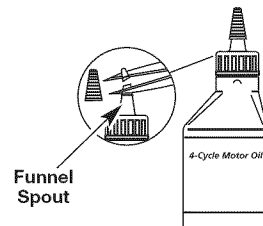

Fig. 5
The unit is supplied with one 3.04 fluid oz. (90 ml.) bottle of SAE 30 SF, SG, SH oil (Fig. 5).
1. Unscrew the top of the bottle of oil and remove the paper seal covering the opening. Replace the top. Next, cut the tip off the funnel spout (Fig. 5).